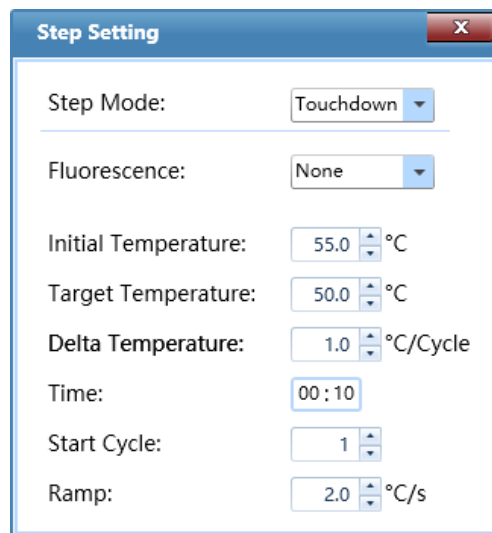

Figure D-5.6b. Step Setting Dialog Box – Touchdown Step Mode
- II. **Touchdown Step Mode:** the touchdown step mode allows the temperature program to change the annealing step temperature from the initial temperature to the target temperature as the cycling proceeds. User could set the corresponding parameters in the **Step Setting** dialog box, as shown in figure D-5.6b.